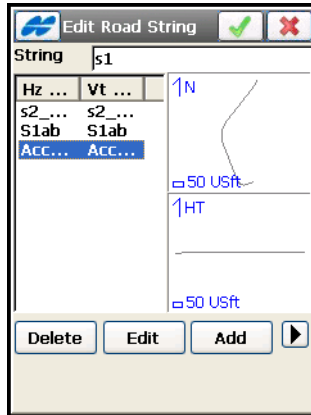

Figure 7-33. Edit Road String
- **Edit** – opens the *Edit Road String* screen to edit the selected string (Figure 7-33 on page 7-34).
A single string is defined by one or many pairs of the horizontal and vertical alignments (Figure 7-33 on page 7-34).